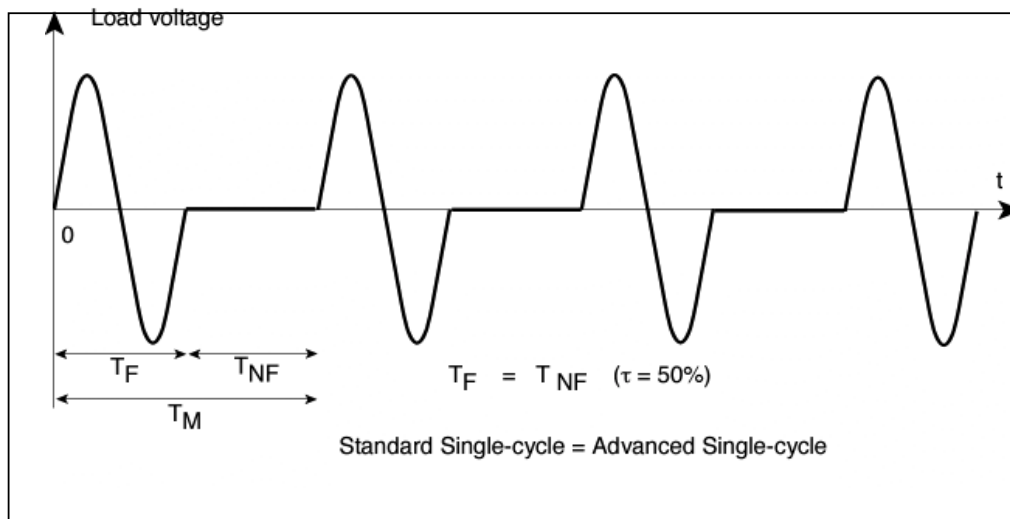

Figure 5-3 'Single-cycle' and 'Advanced Single-cycle' firing modes with  $\tau = 50\%$  ( $T_F = T_{NF}$ )
- For  $\tau = 50\%$ , firing and non-firing times each correspond to one mains cycle (see Figure 5-3).